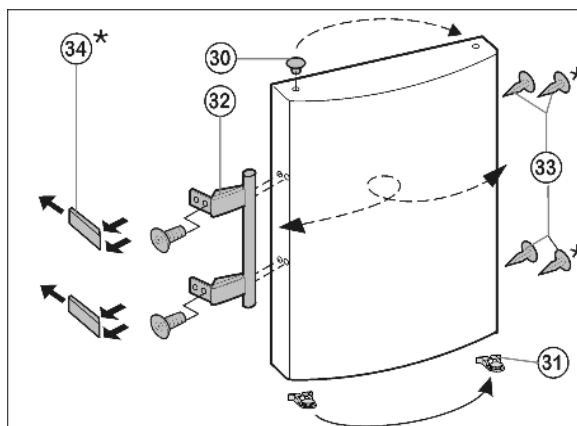

Fig. 8
- ▶ Disengage the spring clip Fig. 8 (31) from the upper door and transfer it to the new hinge side.
- ▶ Lift the stoppers Fig. 8 (30) out of the door bearing bushes and transfer them.
- ▶ Detach the door handles Fig. 8 (32), stoppers Fig. 8 (33) and pressure plates Fig. 8 (34) and transfer to the opposite side.